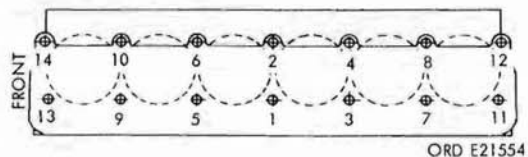

Figure 86. Cylinder head bolt tightening sequence
- (4) Check to be sure that all lines, cables, and parts are installed on the cylinder head that were connected to it and removed with it from the engine. If any components of the cylinder head were removed and installed, check to make sure that all installations were accomplished correctly.
- (5) Install lifting sling No. 4910-708-3213 (a (17) above). Raise the cylinder head high enough to be clear, then carefully lower the cylinder head into place, being sure the push rods enter the proper holes in the cylinder head. Remove the sling.
- (6) Place the valve rocker arm assemblies on the cylinder head. Space the rocker arms on shafts so as to center them over the valve stems and push rods.
- (7) Install two (threaded each end) bolts and washers in the second hole from each end on the left-hand side (positions 7 and 9, fig. 86) through the rocker arm shaft supports. Do not tighten. Install two (threaded each end) bolts and washers in the second hole from ends on the right-hand side (positions 8 and 10) in the cylinder head, and five bolts and washers in the remaining cylinder head holes (positions 14, 6, 2, 3, and 12). Do not tighten. Install five bolts and washers in the remaining rocker arm shaft support holes (positions 13, 5, 1, 3, and 11). Do not tighten.
- (8) Cylinder head bolts must be tightened gradually, evenly, and in a definite sequence to prevent distortion of the cylinder head. Using a torque wrench, start at bolt number 1 (fig. 86) and gradually tighten all the bolts in numerical order until a torque of 100 to 105 lb.-ft. is reached.
- (22) After the engine is warmed up, check the tightness of the cylinder head bolts (100 to 105 lb.-ft.), following the sequence shown in figure 86.
- (23) Adjust the valve clearance for 0.014 to 0.016 inch (par. 39).
- (24) Install the valve rocker arm cover (par. 39).